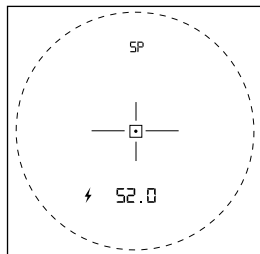

Fig. 5. SP mode (speed measurement).
1. Switch on the device and enter the "SP" mode (Fig. 5).